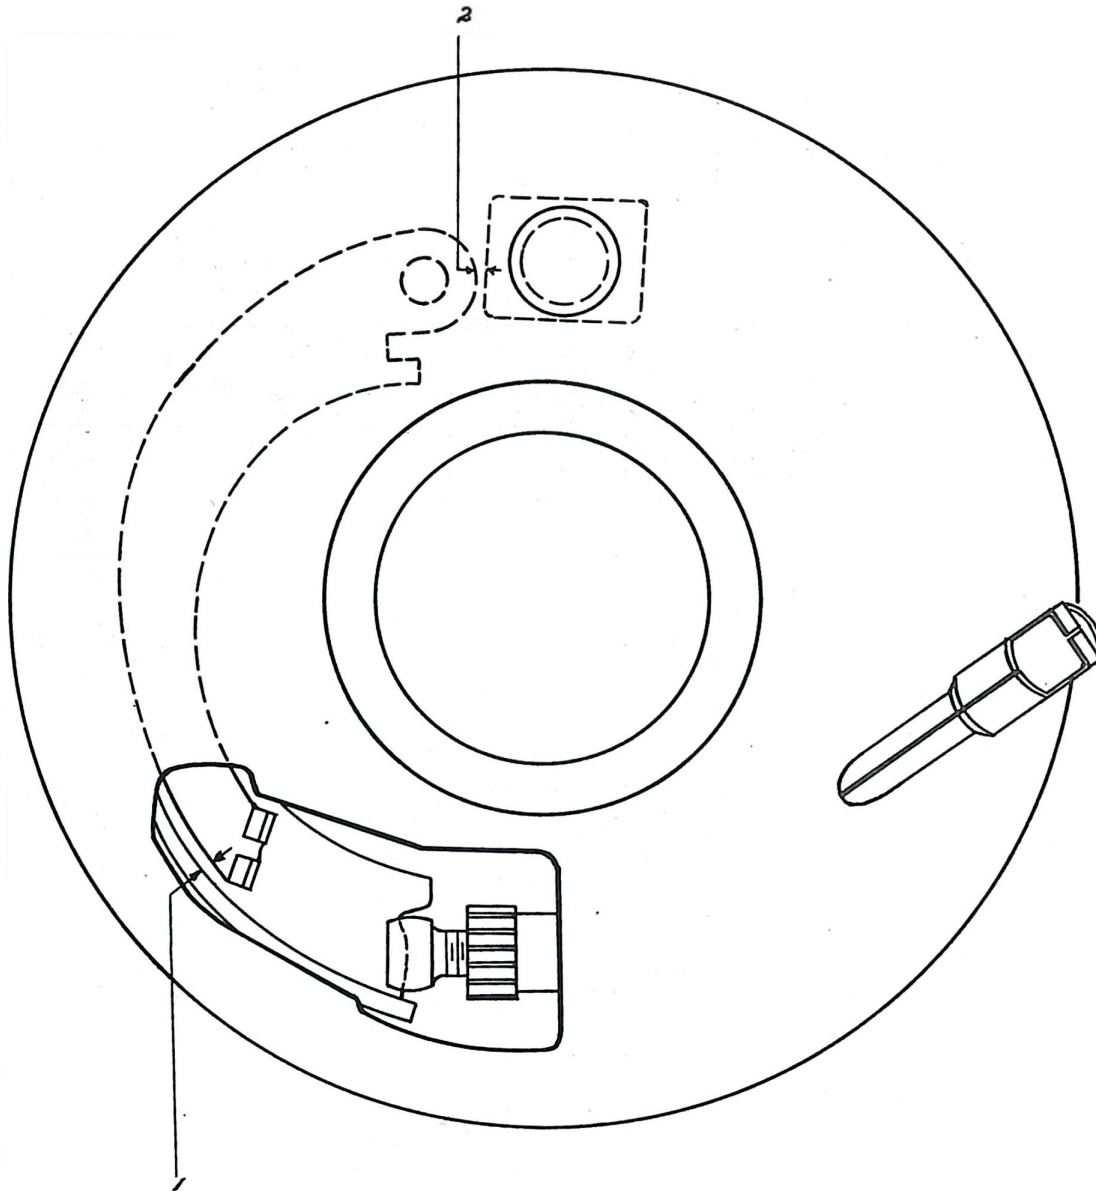

FIGURE 2
5. Interference has been found between the edge of the inner guide and the pivot end of the operating lever (Fig. 2, #2). This can be eliminated by filing a small amount of material from the end of the lever or from the edge of the guide.